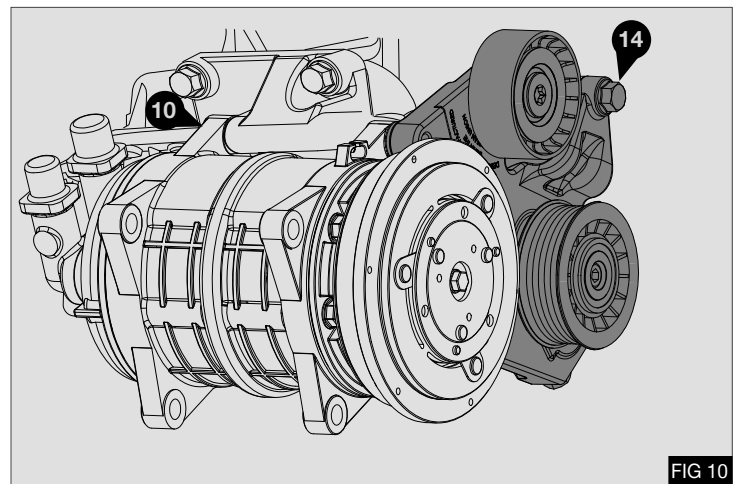

FIG 10
4. Mount the tensioner bracket assembly to the front compressor ears, using the 2 x M10 x 130 bolts (10) previously fitted - Fig 10
5. Secure the tensioner bracket assembly to the mounting point for the original idle pulley, using bolt (14) M8 x 35 - Fig 10